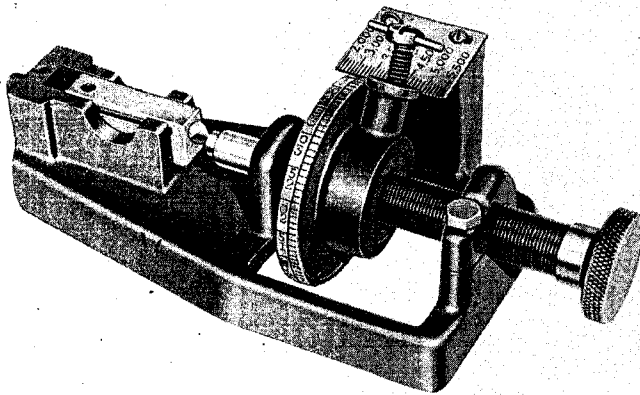

Fig. 14 Micrometer for Setting Cutter
3. Using the special micrometer shown in Plate 30, Fig. 14, set the cutting tool to the correct size and lock in position. Allow .0015" for honing to bring the cylinder to the exact size.